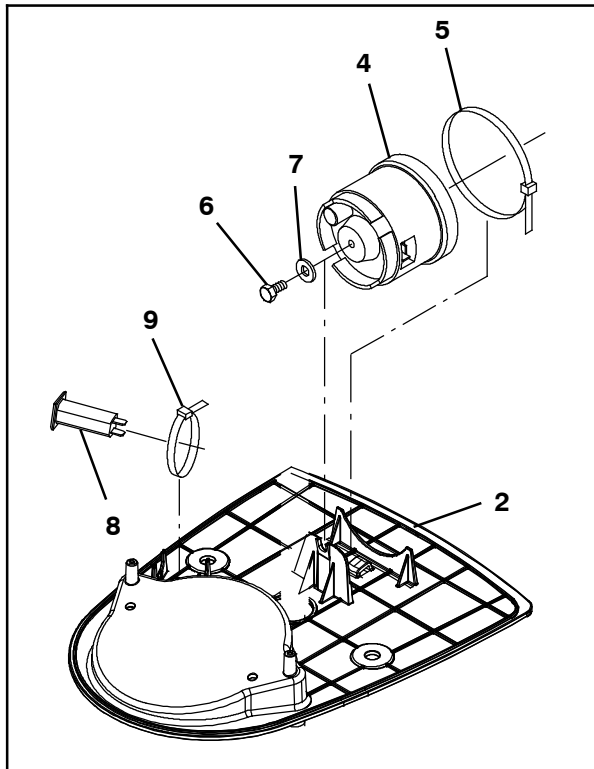

FIG. 5
- Use a cable tie (5), a hex screw (6), and a flat washer (7) to secure the backup alarm (4) to the light module base (2). (Fig. 5)
- Use a cable tie (9) to secure one 2.5 Amp circuit breaker (8) to the light module base (2). (Fig. 5)